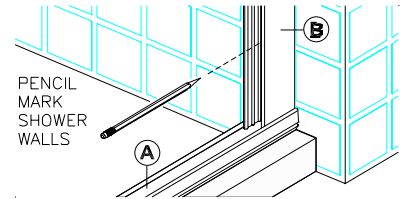

figure 2
3. Place Wall Jamb (B) on to ends of Sill (A) and up against shower walls as shown in figure 2. Plumb the Jamb, then pencil mark their installation holes locations on the shower walls (3 per jamb). Remove Wall Jamb. Using a 3/16" masonry bit, drill 1" deep installation holes in locations previously marked. Insert Plastic Screw Anchors (J) into holes.